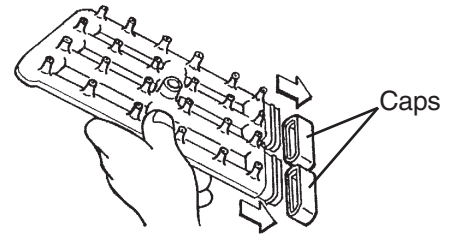

Fig. 33
8) Remove the two caps. See Fig. 33.